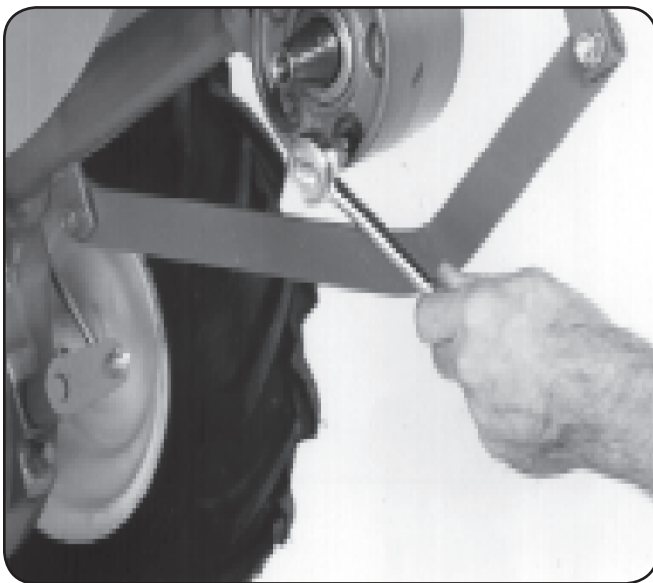

Figure 6-9
- For complete drainage, remove the left-side tine assembly (See Tine Replacement in the Service section.), then remove just one of the lower screws from the tiller housing cover. See Fig. 6-9. To speed drainage, remove the tine attachment dipstick to vent transmission.